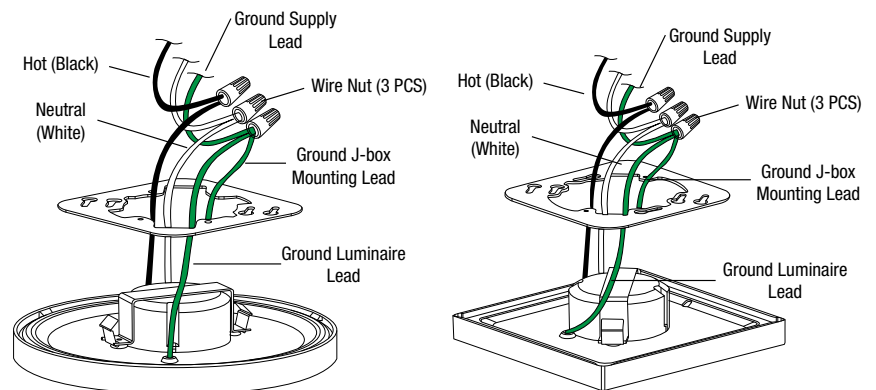

FIGURE 2
4. While supporting the luminaire body, make electrical connections: black lead to hot (Black) supply lead; white lead to neutral (White) supply lead. Un-insulated wires are ground wires (ground j-box mounting lead and ground luminaire lead) must be connected to grounding terminal or ground (Green) supply lead inside j-box. Use WIRE NUTS to make connections (Figure 2)